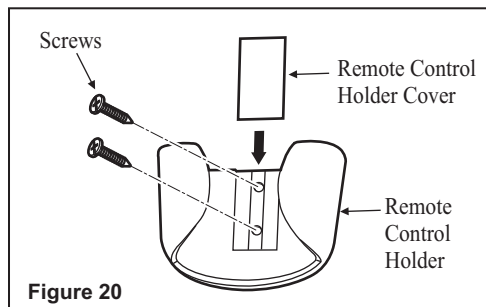

Figure 20
Step 2. Attach the remote control holder with the two remote control holder mounting screw provided. (Fig. 20)